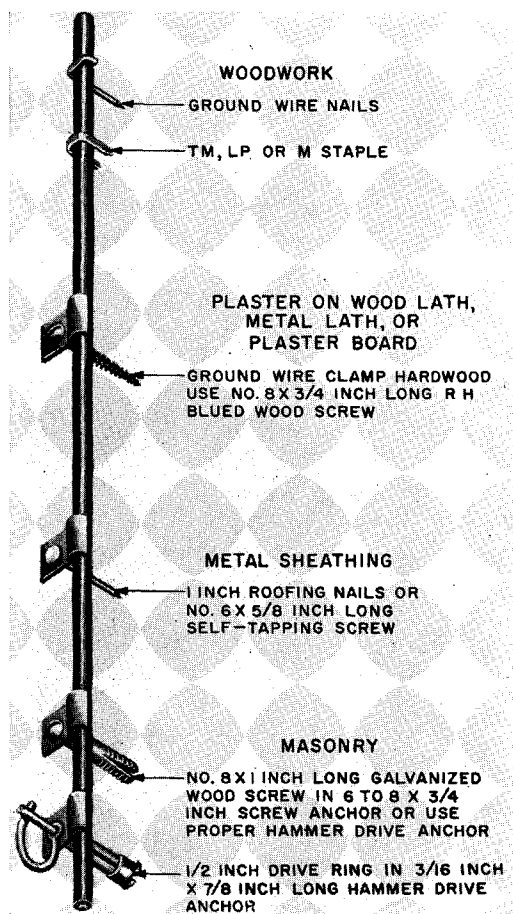

FIG. 25—FASTENERS FOR GROUND WIRE
9.01 Fasteners for ground wire and their use are shown in Fig. 25.